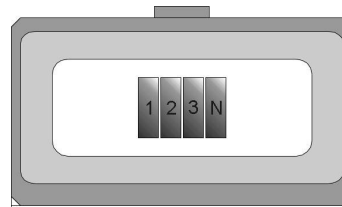

Fig. 1
2. Ensure the busbars are located centrally in the toroid. (Fig.1)